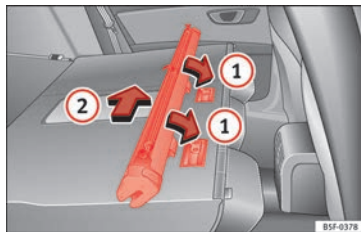

Fig. 126 Assembling the net partition in the rear seat backrests.
- Place the net casing in the rail slots in the direction of the arrows » Fig. 126 ①.
- Push the casing towards the left side of the vehicle in the direction of arrow » Fig. 126 ② and as far as it will go.
» Fig. 126 ②.
» Fig. 126 ①.